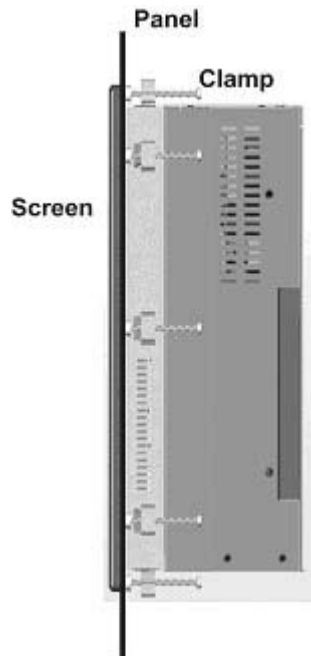

Figure 5-12: Panel Mounting Clamp Position
Step 5: Tighten the screws that pass through the panel mounting clamps until the plastic caps at the front of all the screws are firmly secured to the panel (**Figure 5-12**).